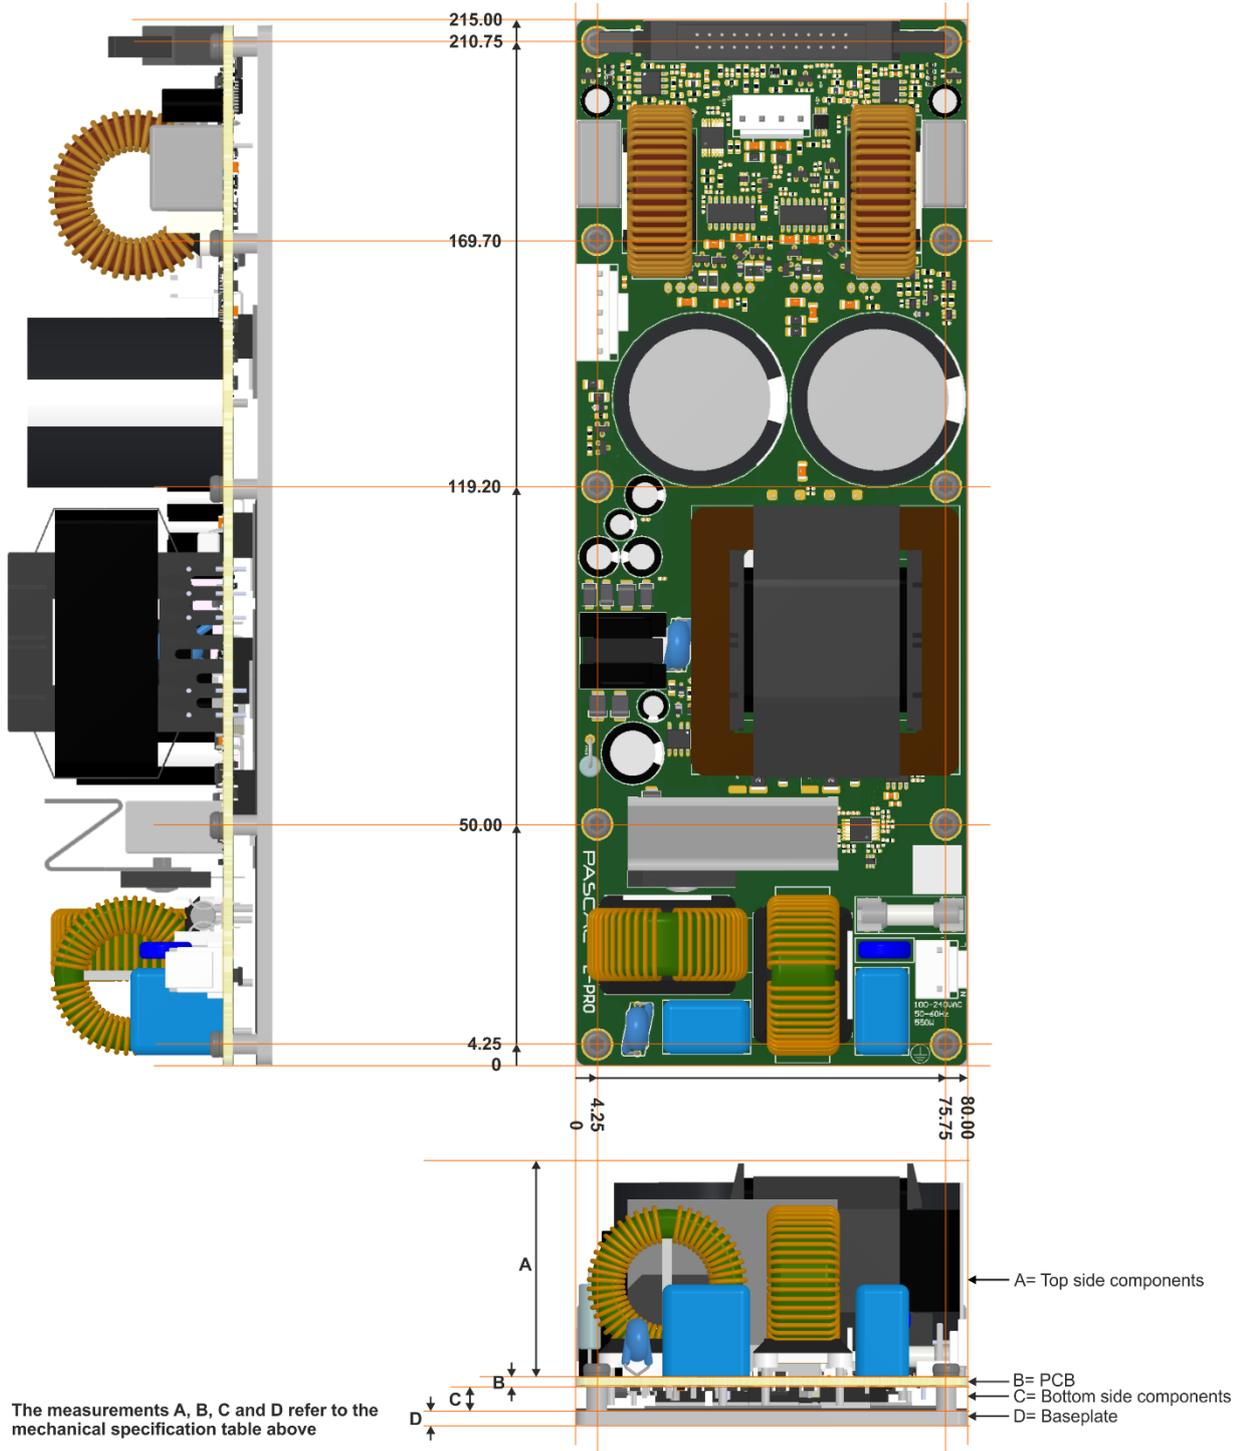

Figure 7-1: Mechanical specifications for L-PRO2S module
The mechanical (A) – (D) measurements listed in the table below refers to *Figure 7-1*.